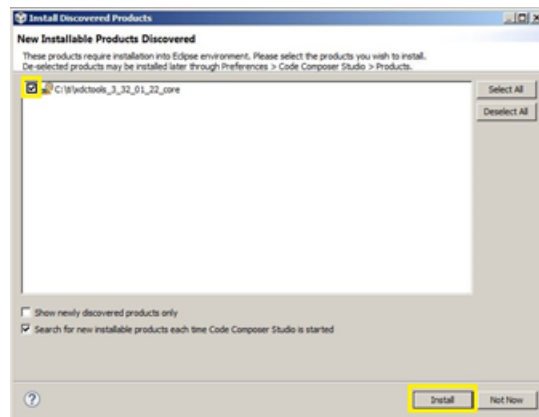

Figure 35. CCS Discovered Products
3. Choose Add, then add the paths and choose Rediscover. After the rediscover, an Install Discovered Products window may appear. If the window appears, the new products have been discovered. If the products mentioned are in the list, select them and click Install (see Figure 35).